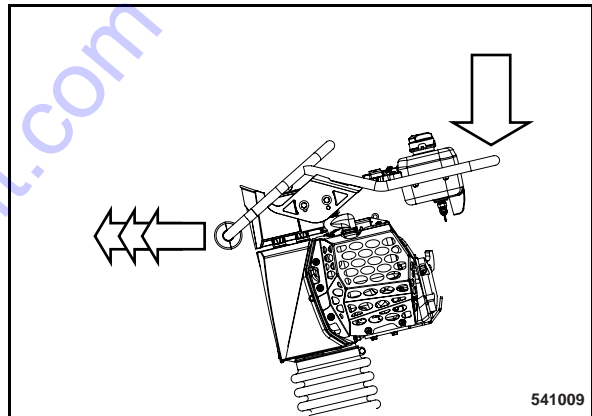

Fig. 19
- The forward marching speed can also be varied via the pressing force on the steering bow (Fig. 19).